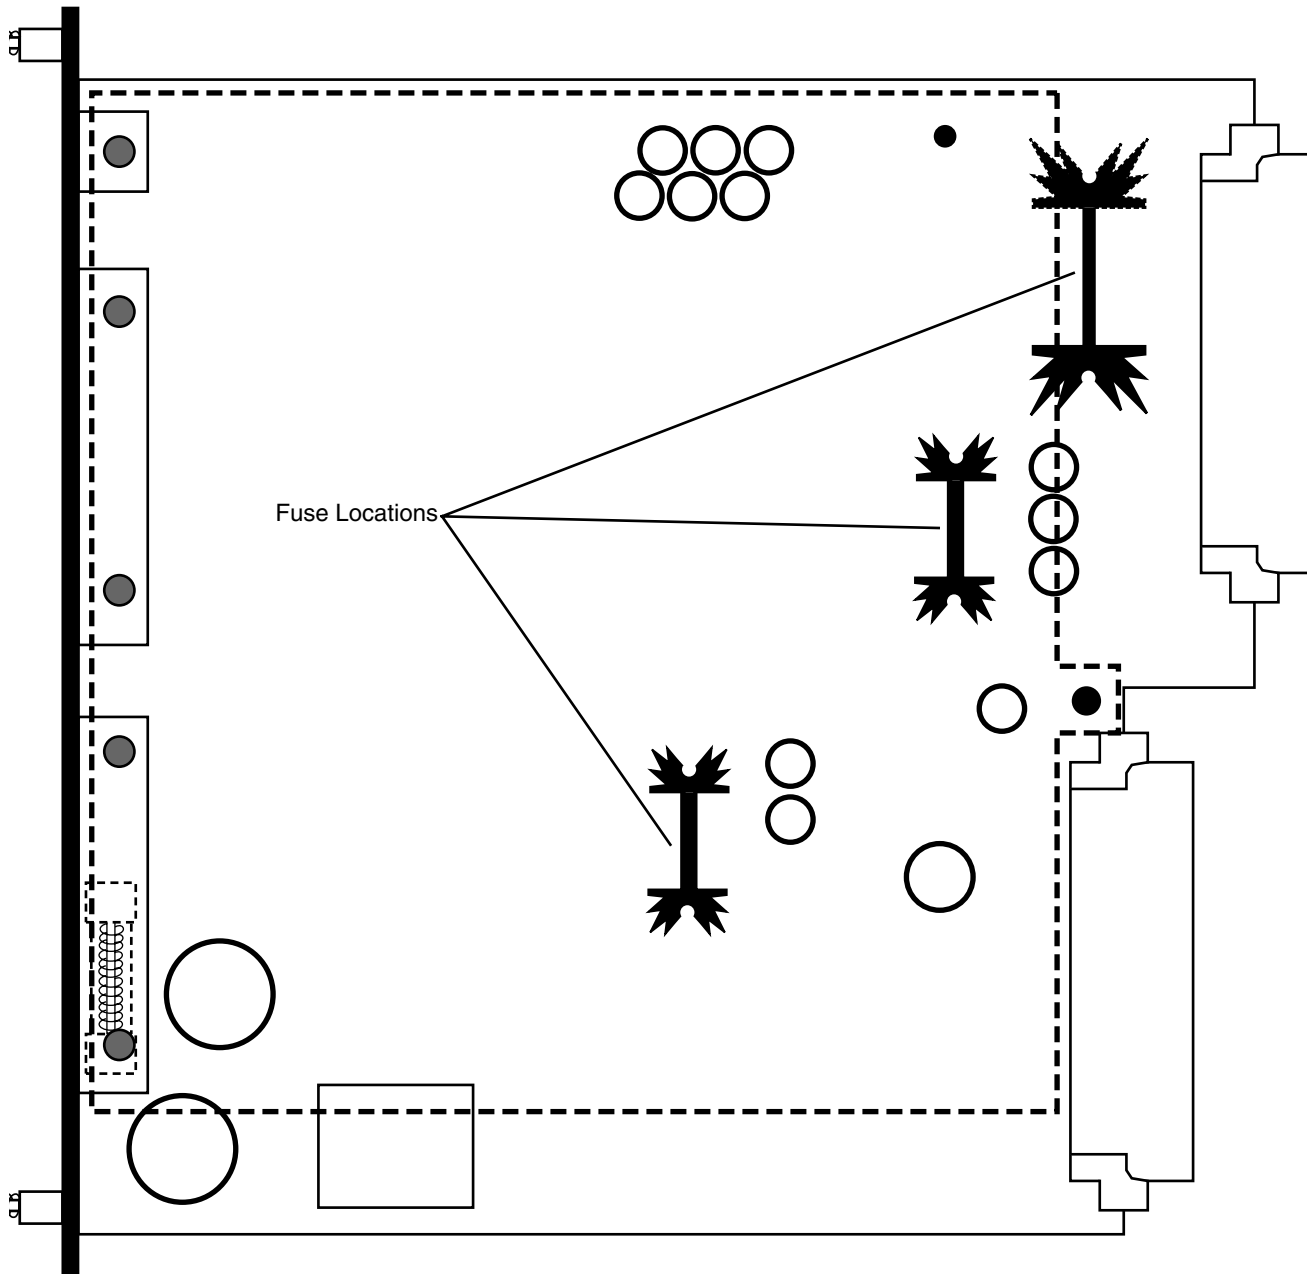

Figure 5-1. Power Supply Fuse Replacement
1. Remove the two (2) captive screws that secure the power supply in the MCF frame, and remove the power supply from the frame.
3. Unscrew the five (5) crosshead screws that secure the metal plate that covers the component side of the power supply. See Figure 5-1.
1. Locate F2 at the front edge of the power supply. See Figure 5-1.